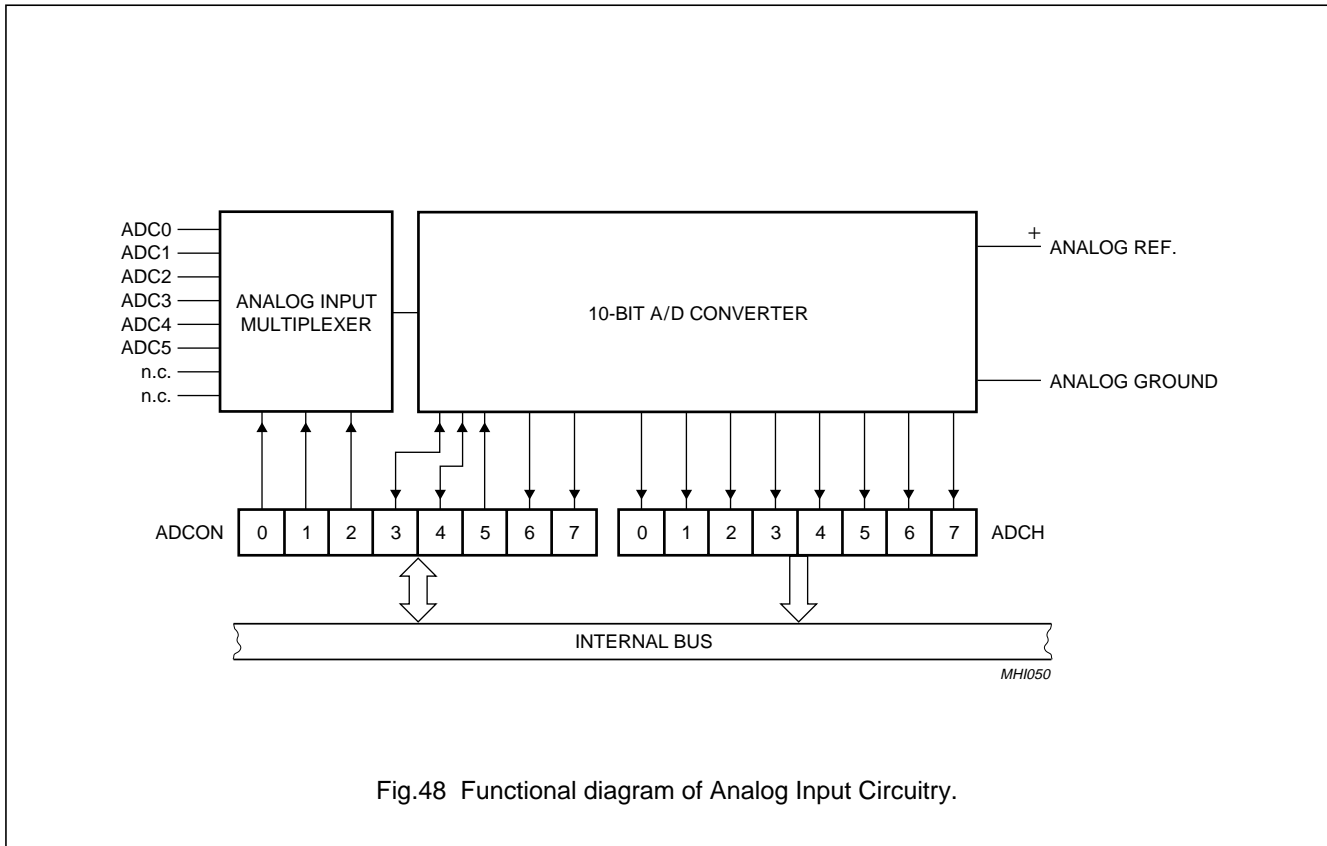

Fig.48 Functional diagram of Analog Input Circuitry.
The analog input circuitry consists of a 6-input analog multiplexer and a 10-bit, straight binary, successive approximation ADC. The A/D can also be operated in 8-bit mode with faster conversion times by setting bit ADC8 (AUXR1.7). The 8-bit result will be contained in the ADCH register. The analog reference voltage and analog power supplies are connected via separate input pins. For 10-bit accuracy, the conversion takes 50 machine cycles, i.e., 25 μ s at an oscillator frequency of 12 MHz. For the 8-bit mode, the conversion takes 24 machine cycles. Input voltage swing is from 0 V to +5 V. Because the internal DAC employs a ratiometric potentiometer, there are no discontinuities in the converter characteristic. Figure 48 shows a functional diagram of the analog input circuitry.
Figure 48 shows the elements of a successive approximation (SA) ADC. The ADC contains a DAC which converts of a successive approximation register to a voltage (VDAC) which is compared to the analog input voltage (V_{IN}). The output of the comparator is fed to the successive approximation control logic which controls the successive approximation register. A conversion is initiated by setting ADCS in ADCON register. ADCS can be set by software only.
otherwise the bit being tested is cleared. This process is repeated until all ten bits have been tested, at which stage the result of the conversion is held in the successive approximation register. Figure 48 shows a conversion flow chart. The bit pointer identifies the bit under test. The conversion takes four machine cycles per bit.
Figure 48 shows how the ADC is realized. The ADC has its own analog ground (AV_{SS}) and a positive analog reference pin (V_{ref+}) connected to each end of the DAC's resistance-ladder. The ladder has 1023 equally spaced taps, separated by a resistance of "R". The first tap is located $0.5 \times R$ above AV_{SS} , and the last tap is located $1.5 \times R$ below V_{ref+} . This gives a total ladder resistance of $1024 \times R$. This structure ensures that the DAC is monotonic and results in a symmetrical quantization error is shown in Figure 48.